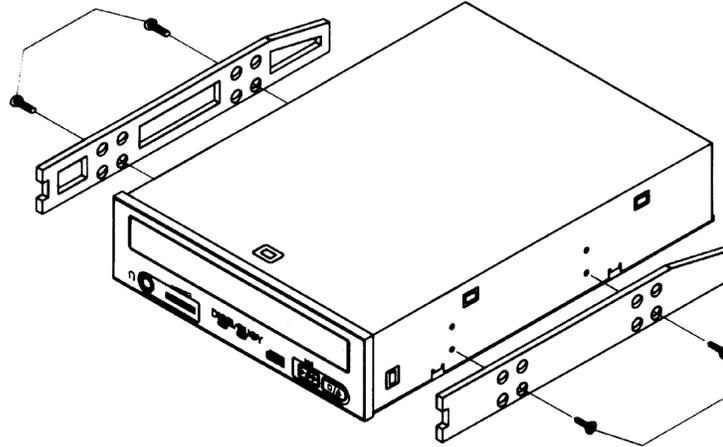

Figure 12: Installing Mounting Rails (if Needed)
5. If you must use mounting rails, fasten the rails to the lower pair of holes as shown in Figure 12. (In some instances, you may need to fasten the rails to the upper set of holes.) After fastening the rails, check their positioning by sliding the drive into the bay before you mount the drive or connect any cables.